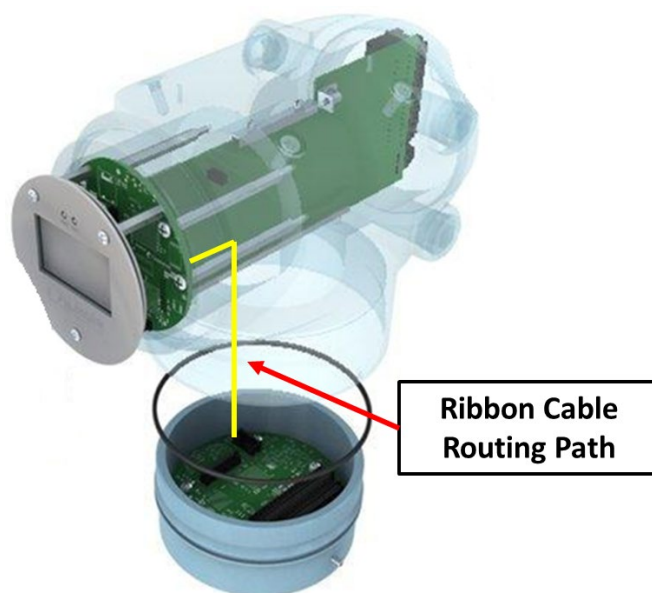

Figure 6.6—MXR-CTC ribbon cable routing path
6. Connect the ribbon cable to the back of the CTC card. Gently press the CTC assembly onto the IOP connector. Refer to Figure 6.6 below for a view of the routing path.